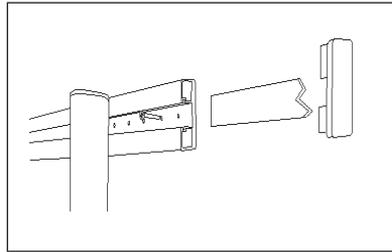

Figure 6
1. Remove one end cap from each horizontal crosspiece of the frame with a flat-head screwdriver. Slide out the cover strips to access the bolt holes (see Figure 6). Fasteners are not included. Use fasteners to suit wall construction. Installation must be adequate to support a 250 lb. user.